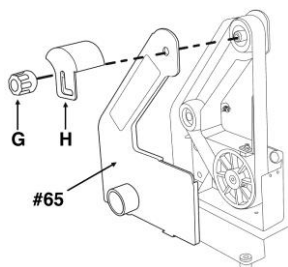

Fig. 21
1. Remove the belt guard locking knob (G) and then remove the upper belt guard (H) and side belt cover (#65) (Fig. 21).
4. Replace the upper belt guard (H) and side belt cover (#65) and secure in place by tightening the belt guard locking knob (G) (Fig. 21).